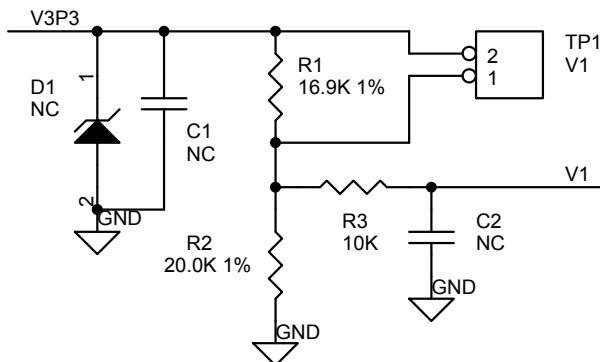

Figure 1: Circuit for V1
- 2) **In order to program the chip on the PCB, there must be a way to disable the hardware watchdog timer. This can be done, for example, by providing a jumper that temporarily connects V1 directly to V3P3 (see Figure 1).**